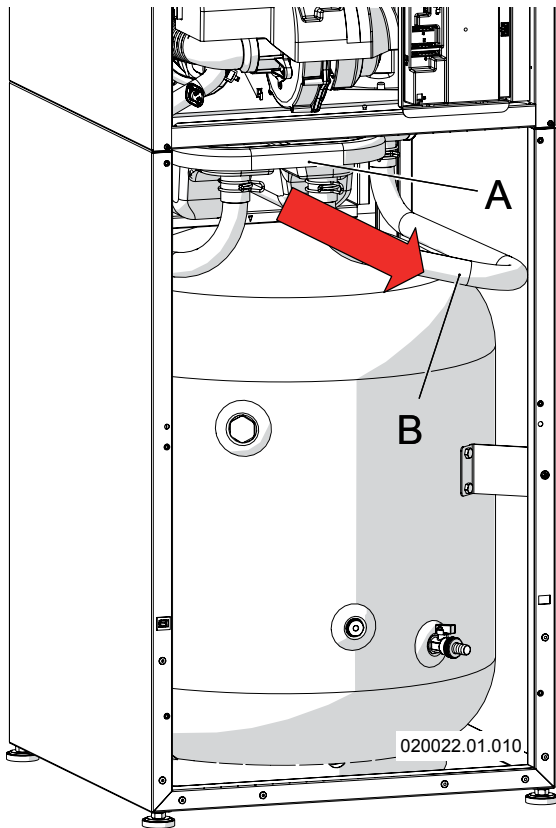

Figure 17-13 Condensate trap “B” and neutralizing box “A”
2. pull out for 2 inches the condensate box “A” (Figure 17-13);